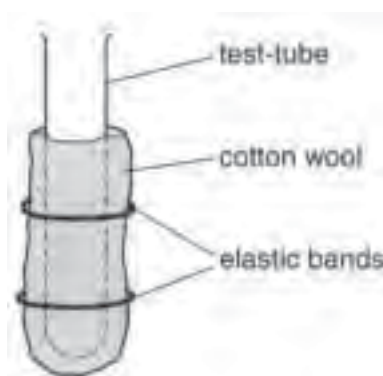

Fig. 2.1
- (iii) Cotton wool (sufficient to wrap completely around the test-tube as shown in Fig. 2.1). Fresh cotton wool is required for each candidate. Spare cotton wool should be available.